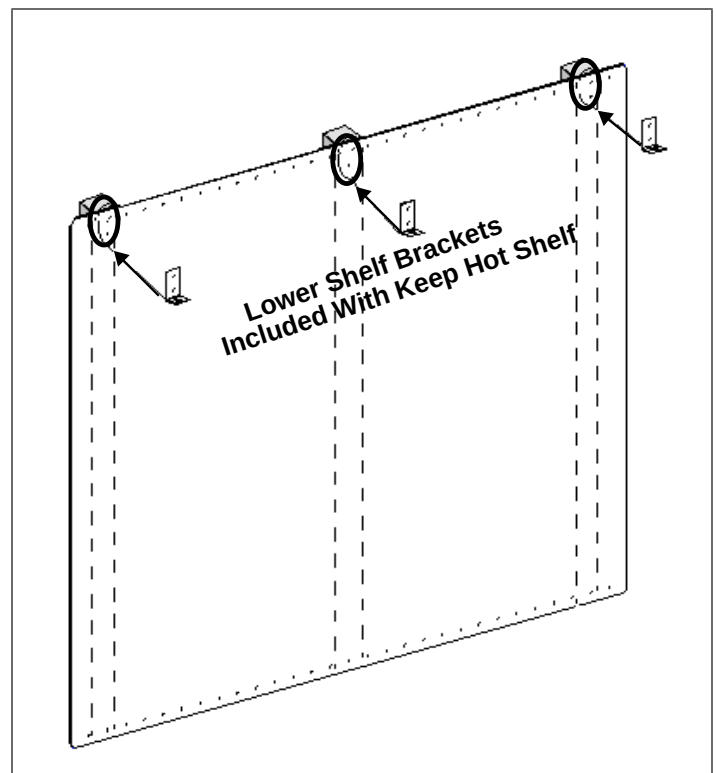

Figure 13: Backsplash with a Keep Hot Shelf
3. At the locations indicated in Figure 13, mount the lower shelf brackets included with the Keep Hot Shelf through the Backsplash and into the wall studs.